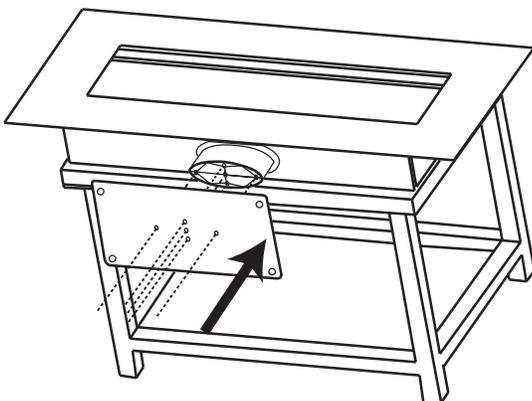

Fig. 3
- D. Prepare the glass base and ensure that the rubber feet of the glass base are facing away from the appliance (**Fig. 3**).